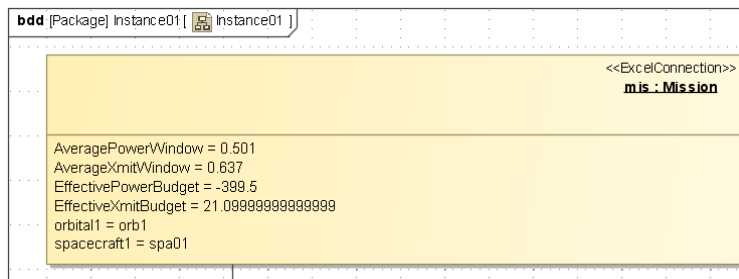

Figure 6.19 Browser before execution.
- d. Click Update to SysML. **mis:Mission** slot values appear as in Figure 6.19.